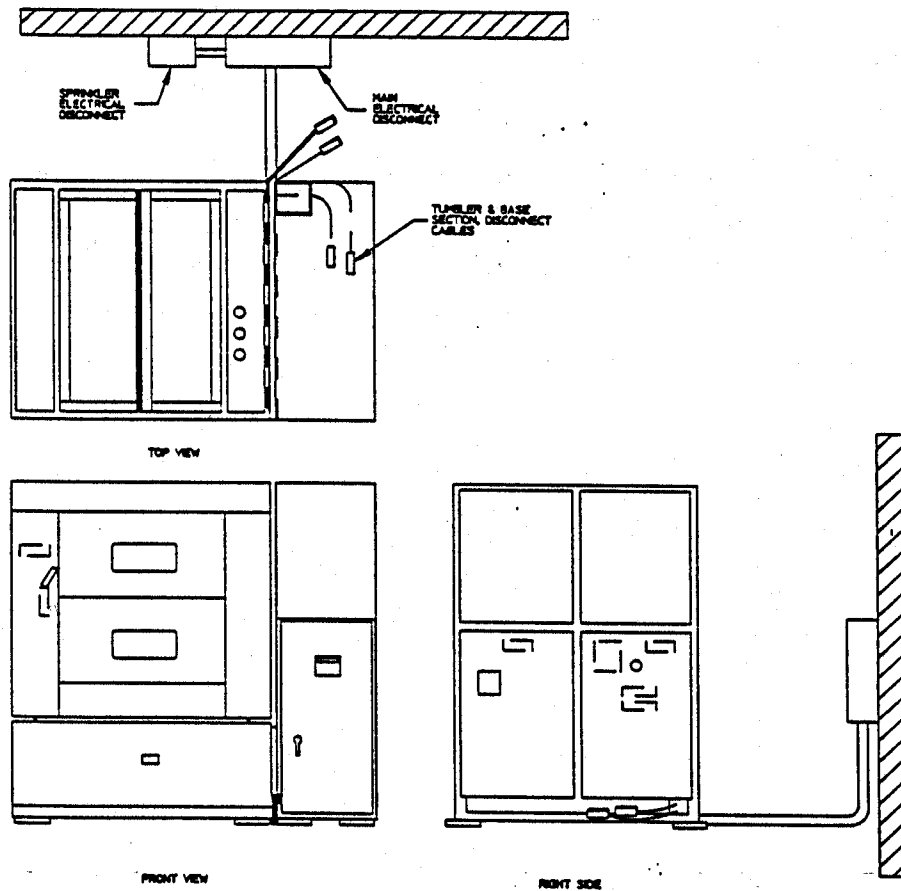

FIGURE 3
1. Locate two large plugs that connect the TUMBLER and BASE sections to the MAIN ELECTRICAL ENCLOSURE. Route these labeled cables through the base of the burner section, and latch them to their "KEYED" mating connectors. Fig. 3